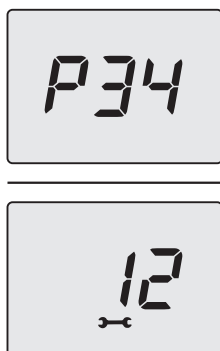

Figure 4.5
- 5 To enter the selected parameter press key "B" (Figure 4.1) for 1 second. The display will show the following (Figure 4.5).